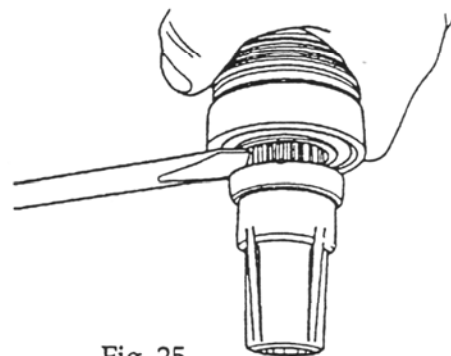
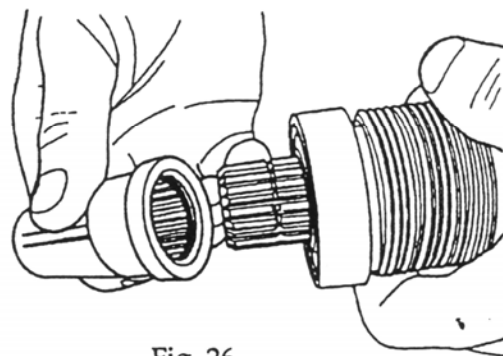

Fig. 25
Fig. 26
5. Remove the drive ring and assembly. With a large blade screwdriver insert the blade of the screwdriver behind the drive and ring assembly then twist the screwdriver to loosen the assembly on the shaft. See Fig. 25. When prying the drive ring from the drive sleeve assembly shaft the blade of the screwdriver must pry against the inner race (ring) of the bearing to avoid damaging the bearing. This will take a good strong twist, since the assembly has an internal ring clip that seats in a groove on the drive sleeve assembly shaft. See Fig. 26. Once you have popped the ring out of the groove, work the assembly off the shaft by wiggling it with your hand.